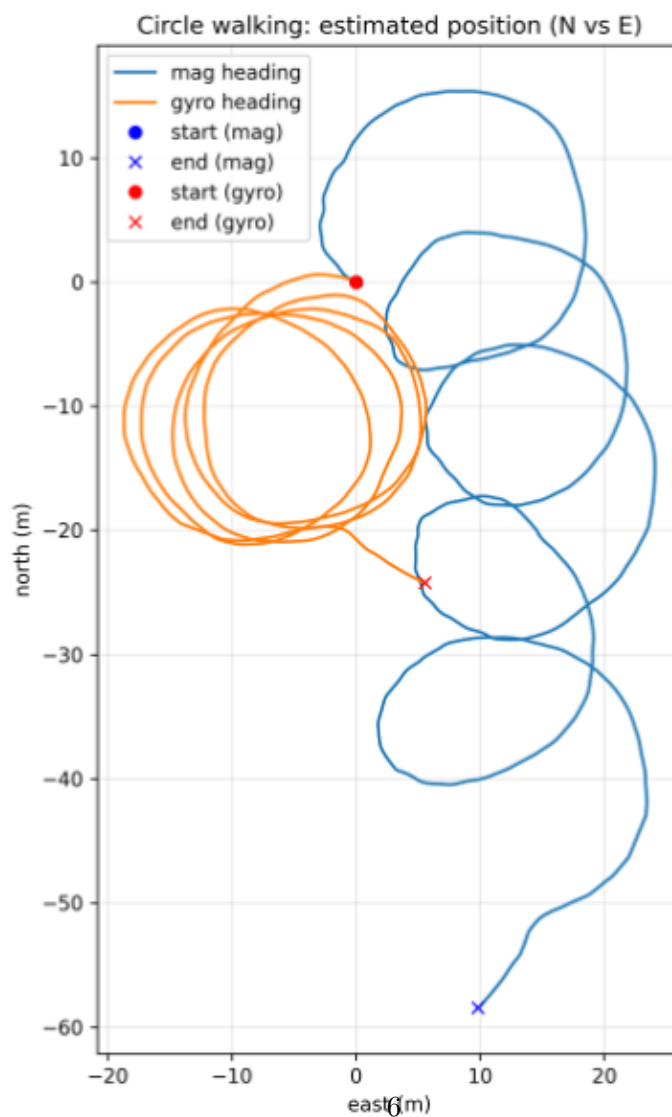

Figure 8: Reconstructed trajectory: Northing vs. Easting position using magnetometer and gyro headings
**Task:** Using estimates for heading from the magnetometer and the gyro, along with your twice-integrated acceleration in X, make a plot of your N vs. E position (Fig. 8) using different marker types or colors for the magnetometer heading and the gyro heading.